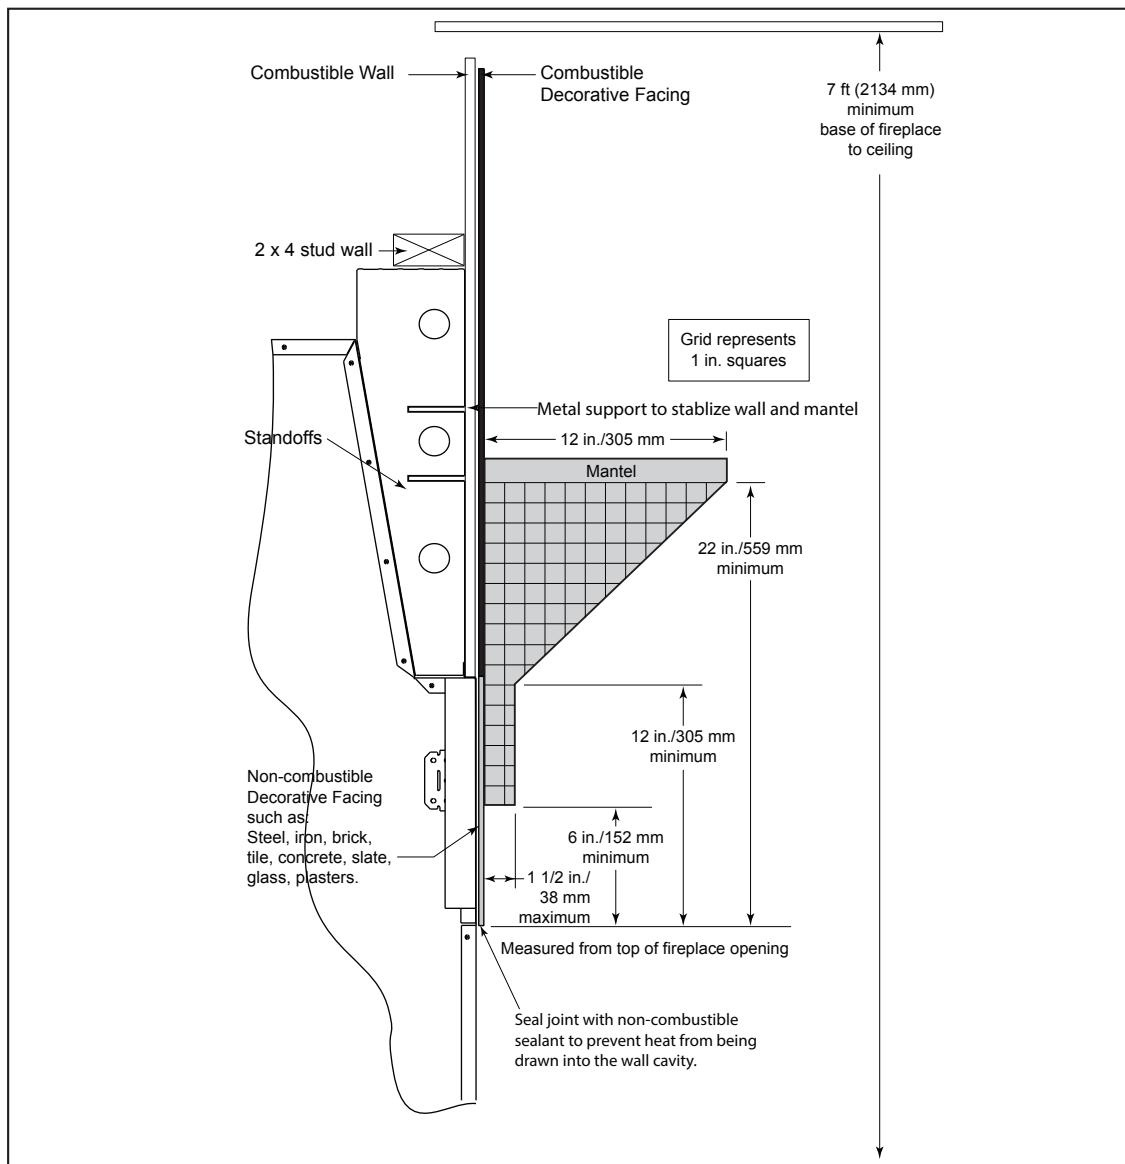

Figure 9.3 Clearance to Mantel or other non-combustibles above fireplace
- Refer to the shaded areas of Figure 9.3 for the location and dimensions of a combustible mantel.